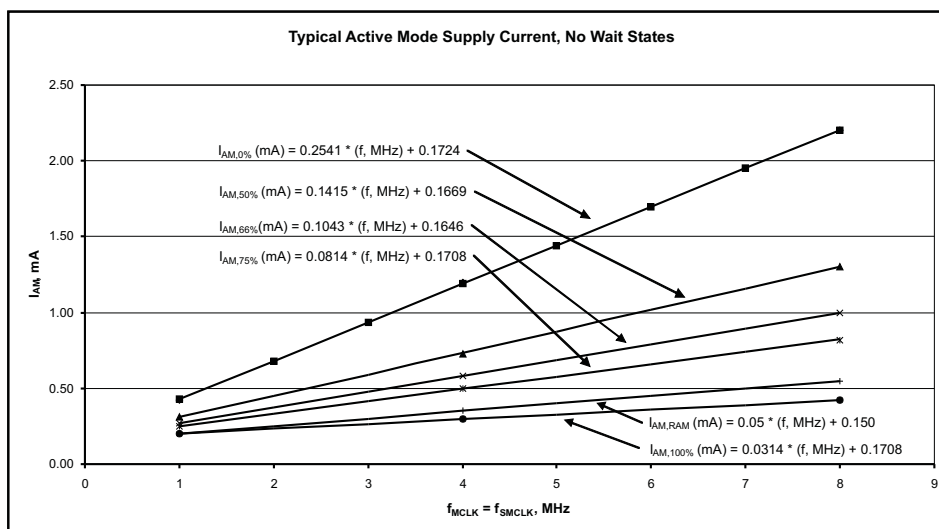

Figure 4-1. Typical Active Mode Supply Currents, No Wait States
- See Figure 4-1 for typical curves. Each characteristic equation shown in the graph is computed using the least squares method for best linear fit using the typical data shown in Section 4.4.